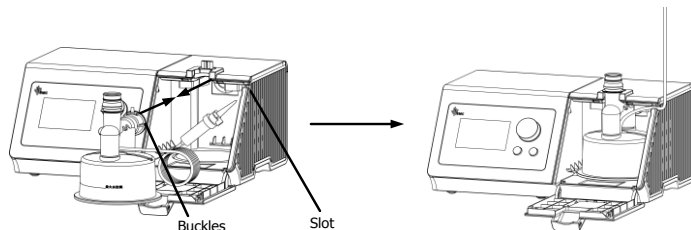

Fig. 11-8
(3) **Install water chamber:** Connect the interface of the adapter with corresponding interface of the device, stick the water inlet in the water inlet slot of the device, then install the water chamber in place (buckles at both sides of the adapter of water chamber will be stuck in the slot of corresponding position of the device, and make a "click" sound), as shown in the following Fig. 11-8.